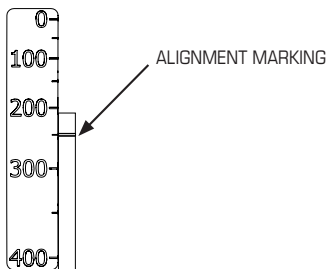

Figure 3.5-2 *RAAM GSS Backup Range Indicator*
- Step 1.)** Turn the **RAAM GSS** until the alignment marking aligns with the range on the backup range indicator, matching the range of your intended target (see Figure 3.5-2).